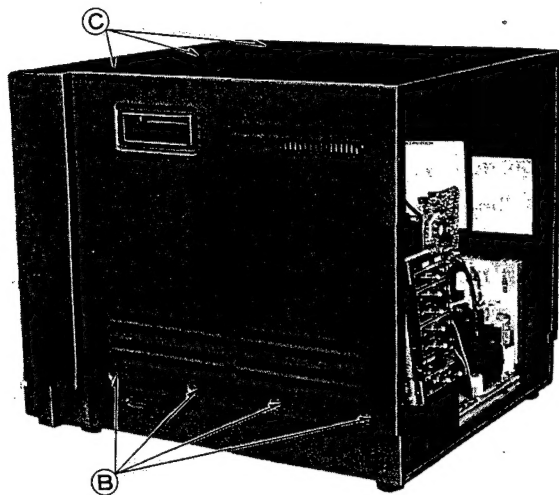

Figure 3
1. Remove 4 (B) screws on each side and 3 (C) screws, and then carefully the cabinet upward shown in figure 3.